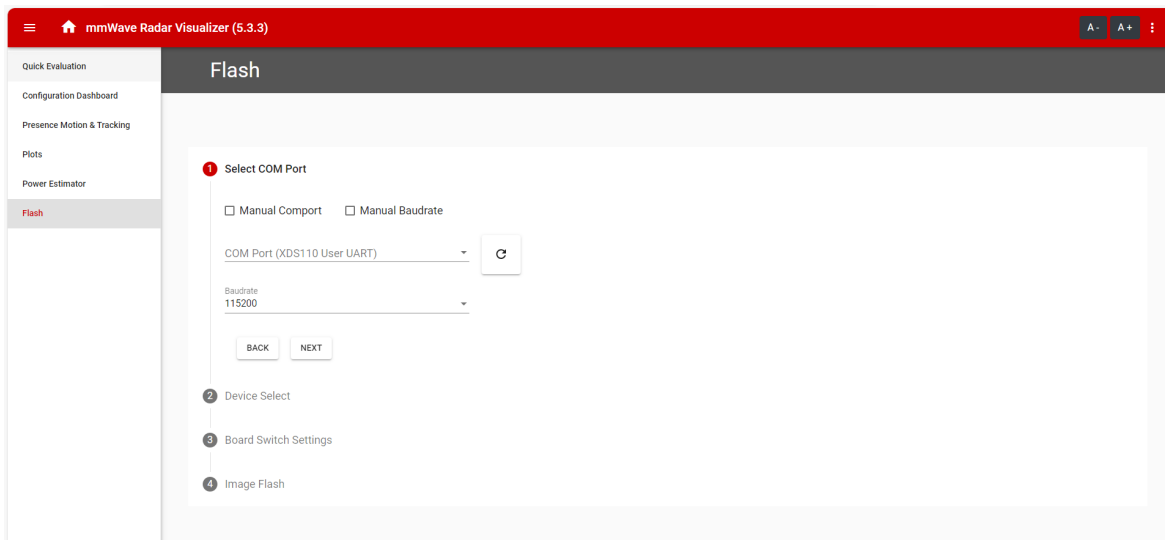

Figure 3-1. Flash Tab in Visualizer Tool
4. Run the mmWave Visualizer inside mmWave-L-SDK tool folder and use the flashing tab and follow the instruction or use Uniflash tool. Similar to that shown in Figure 3-1.